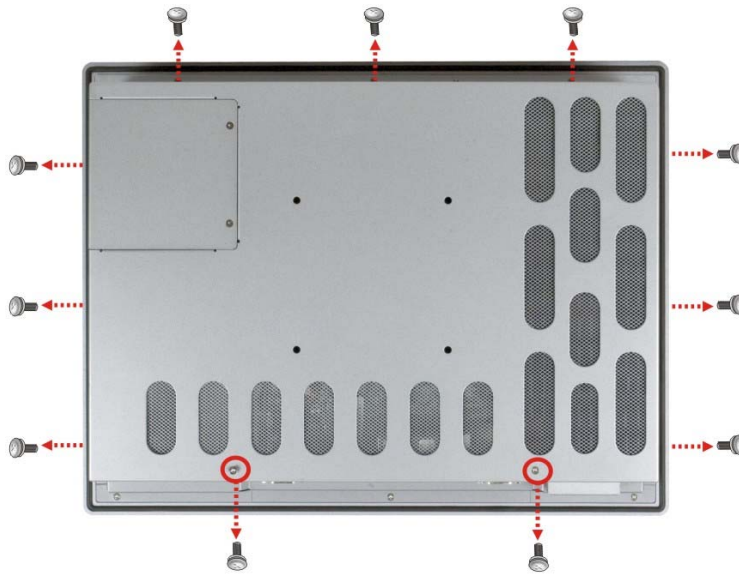

Figure 4-1: Back Cover Retention Screws
Step 3: Remove a total of 11 retention screws from the back cover, nine on the rear of the frame and two on the rear panel (**Figure 4-1**).